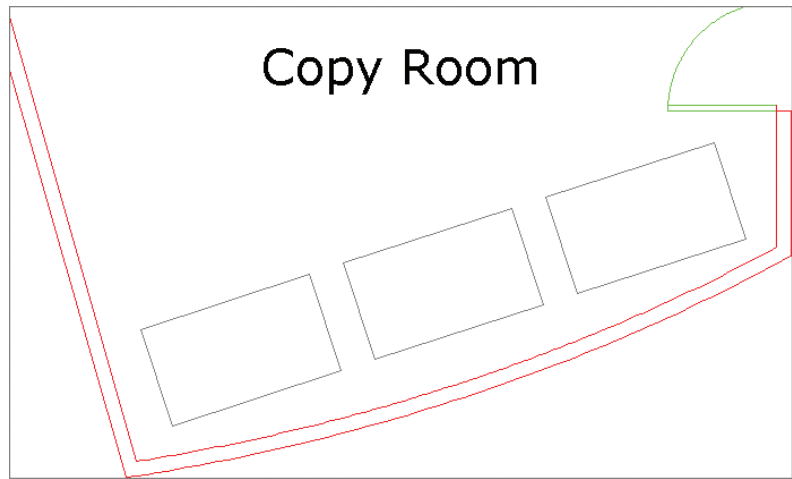

FIGURE 4.25 Offsetting and filleting walls
4. Type **F** (for **Fillet**), press Enter, and click the new elliptical arc and the inner line of the adjacent vertical wall on the right. Press the spacebar to repeat the **FILLET** command, and click the elliptical arc and inner line of the adjacent vertical wall on the left. The intersections between the wall objects are cleaned up (see Figure 4.25).